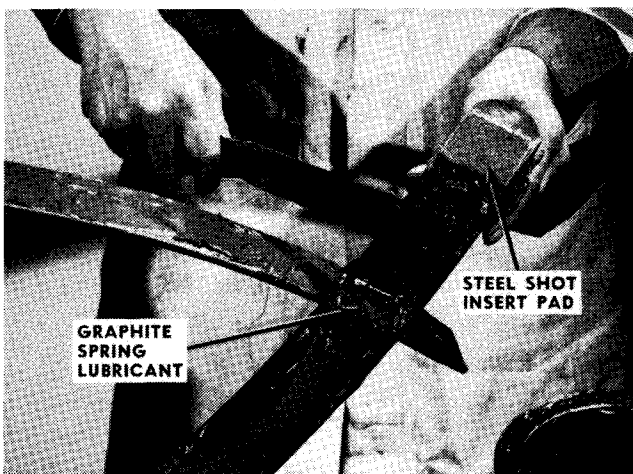

FIG. 4
7. Thoroughly lubricate each leaf of the spring (including the shot insert) with graphite spring lubricant. See Fig. 4.